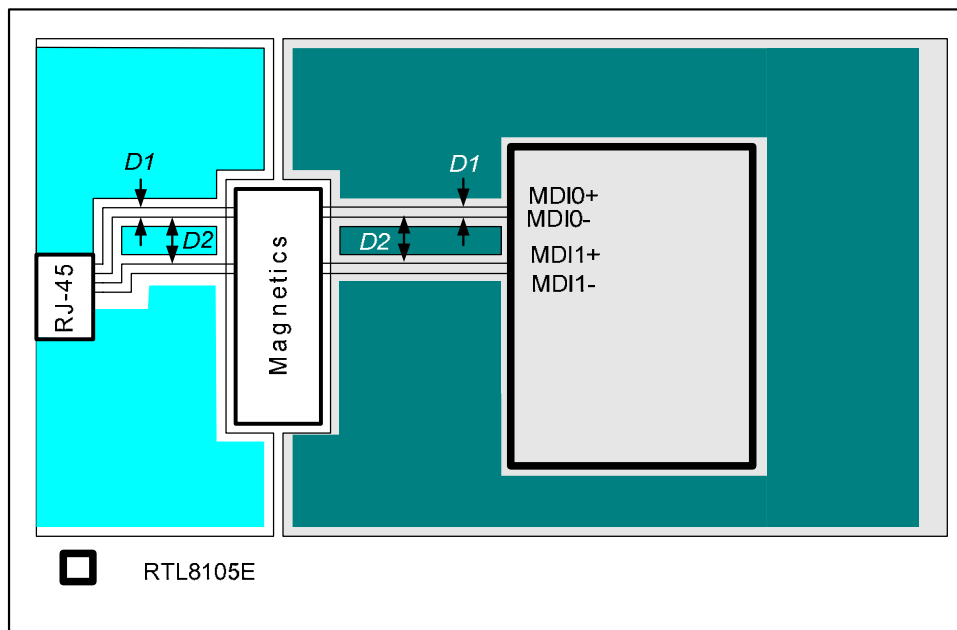

Figure 2. Signal & Trace Routing
- Traces routed from the RTL8105E to the 10/100M magnetics, and to the RJ-45 connector, should be as short as possible. The 20cm maximum length between the RTL8105E and magnetics is achievable only when there is no interference. It is also very important to keep all two differential pair signal traces (MDI0+/-, MDI1+/-) equal in length. The two traces of each pair should be placed close to each other (D1) since they are differential pair signals to each other and provide a strong cancelling effect on noise. The width of D1 should be calculated to have 100Ω impedance (Figure 2).
- We suggest that there should be more than 30mil spacing between different differential pairs to minimize cross-talk coupled from other pairs (D2 in Figure 2). In addition, Ground Plane shielding can be used to separate all two signal pairs. However, a good layout should avoid the following situations: